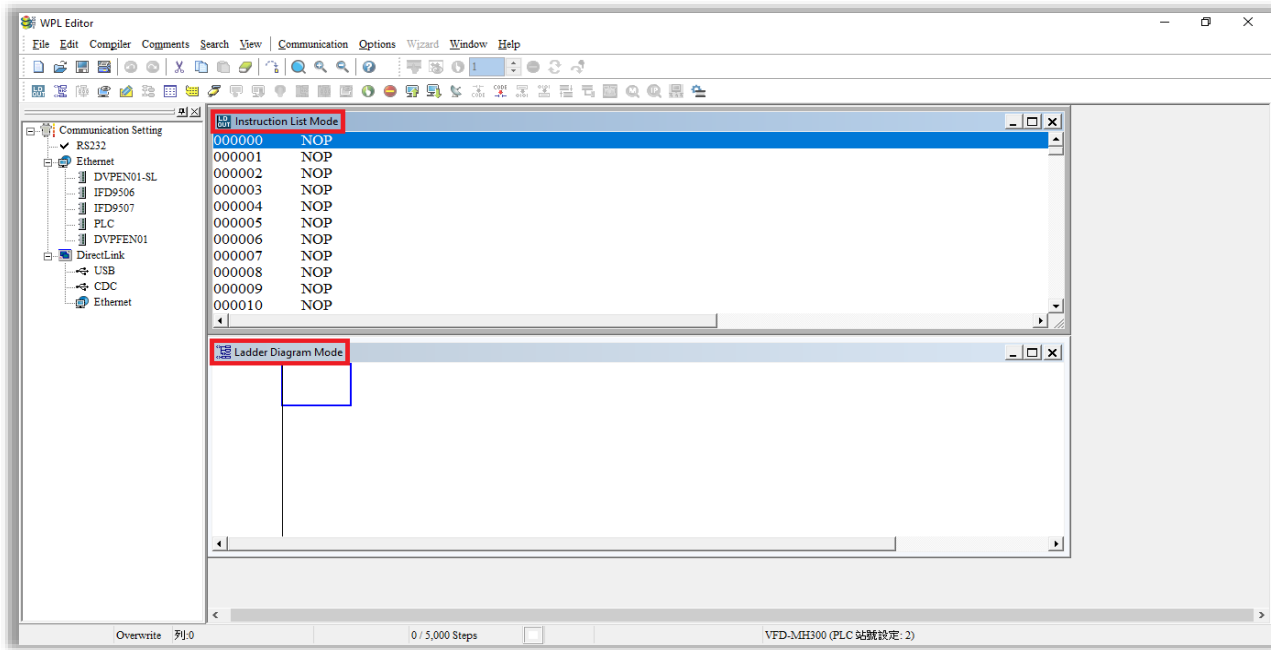

Figure 16-8
Step 5: Press Confirm after completing settings and begin program editing. There are two program editing methods; you can choose whether to perform editing in the command mode or the ladder diagram mode (see Figure 16-8 below).